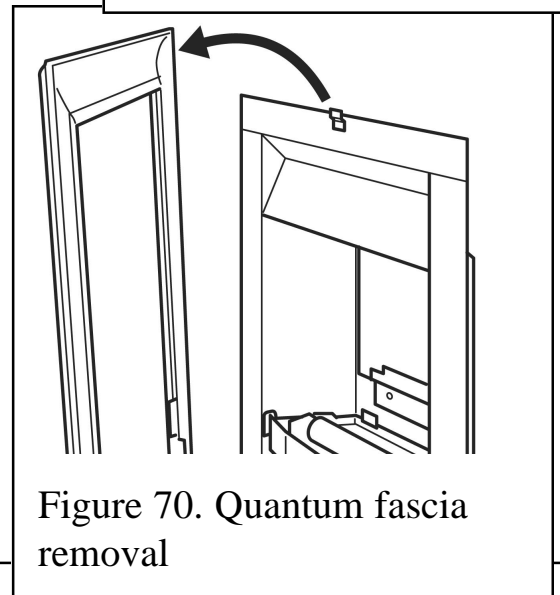

Figure 70. Quantum fascia removal
3. Carefully lift the fascia upward to clear the upper retaining bracket on the hotbox (See figure 70). Pull the fascia clear and place carefully aside.